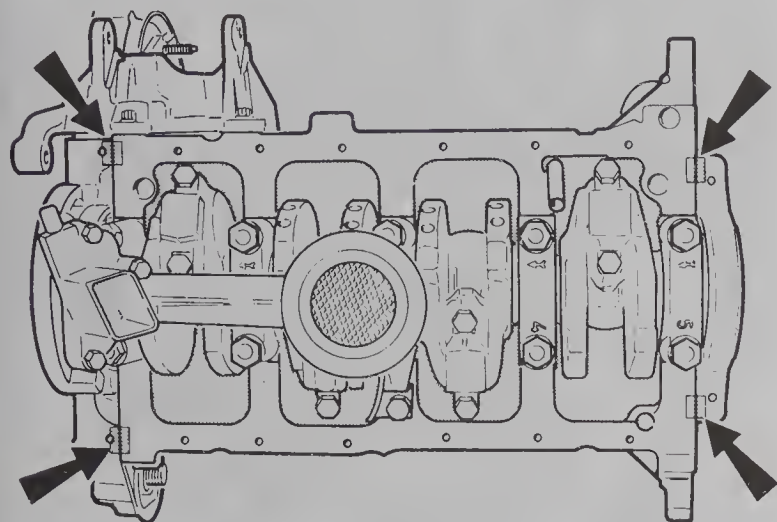

Fig. 1.32 Apply jointing compound to the critical sealing areas (arrowed) of the sump mating face (Sec 14)
- 10 Clean the block mating face then apply non-setting jointing compound to the areas shown in Fig. 1.32.